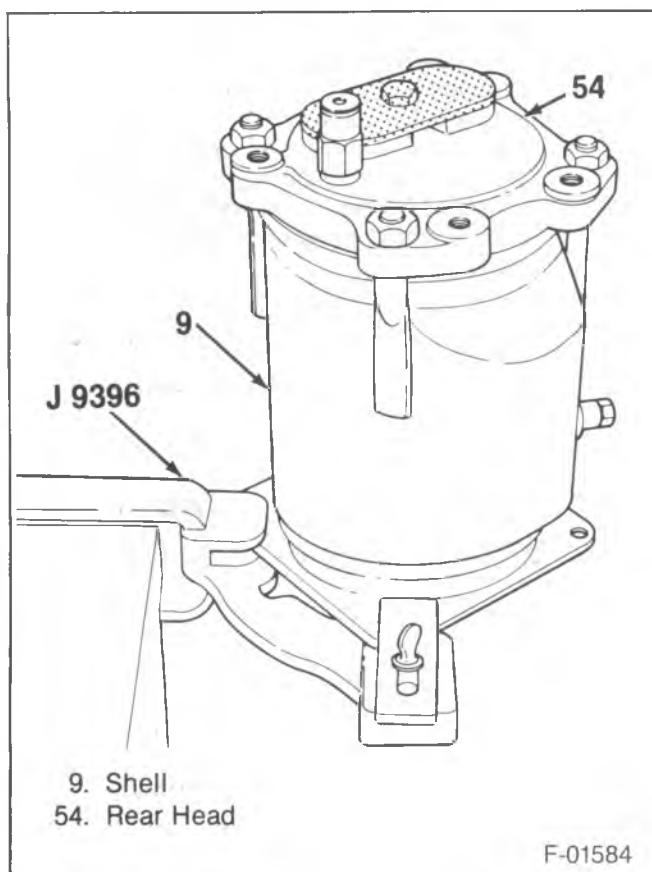
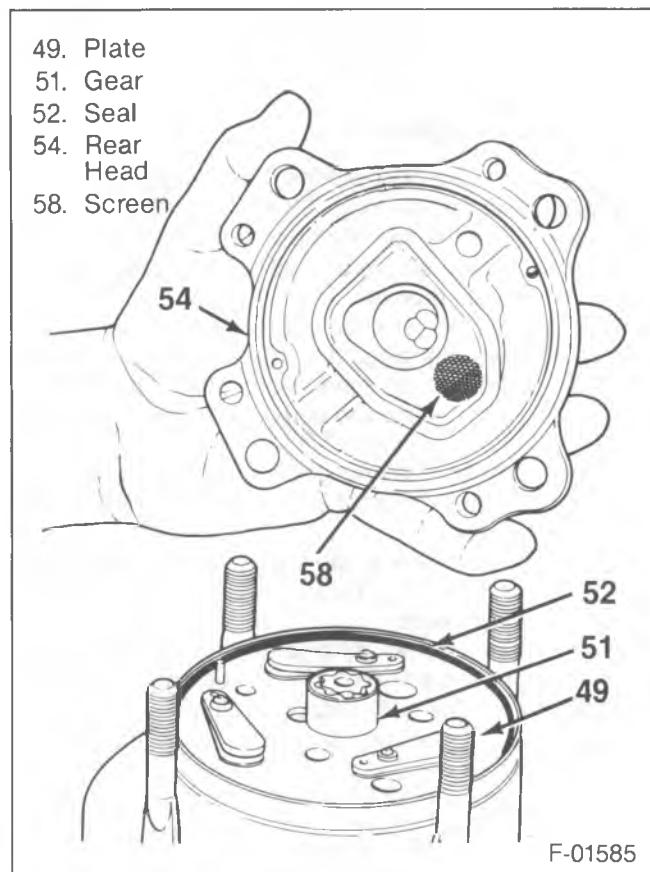
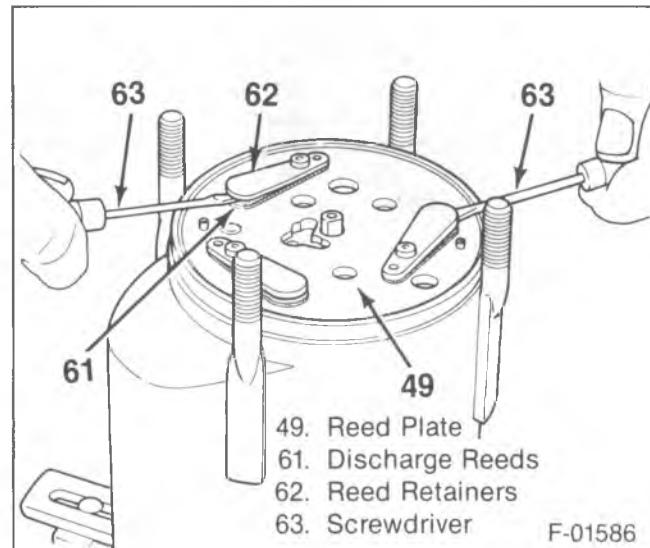

Figure 17—Compressor to J 9396
Figure 18—Removing the Rear Head
Figure 19—Removing the Rear Discharge Valve Plate and Seal
- Compressor to J 9396. Secure with thumb screws (figure 17).
- 1. Nuts (53) from the threaded studs.
- 2. Rear head (54) (figure 18).
- Tap around the edge to remove the rear head (54).
- 3. Suction screen (58).
- 5. Seal (52).
- 6. Rear discharge valve plate assembly (49) (figure 19).